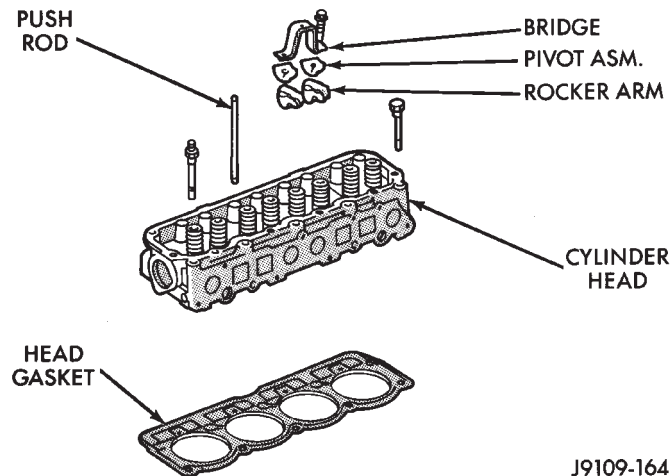

Fig. 3 Engine Cylinder Head Assembly
(9) If equipped, disconnect the power steering pump bracket. Set the pump and bracket aside. **DO NOT** disconnect the hoses.
(10) Remove the fuel lines and vacuum advance hose.
(11) Remove the intake and engine exhaust manifolds from the engine cylinder head (refer to Group 11, Exhaust System and Intake Manifold for the proper procedures).
(12) Disconnect the ignition wires and remove the spark plugs.
(13) Disconnect the temperature sending unit wire connector.
(14) Remove the ignition coil and bracket assembly.
(15) Remove the engine cylinder head bolts.
(16) Remove the engine cylinder head and gasket (Fig. 3).
(17) If this was the first time the bolts were removed, put a paint dab on the top of the bolt. If the bolts have a paint dab on the top of the bolt or it isn't known if they were used before, discard the bolts.
(18) Stuff clean lint free shop towels into the cylinder bores.